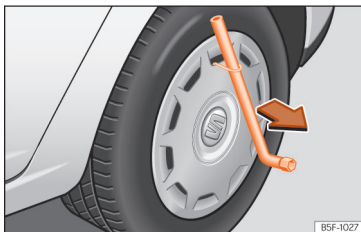

Fig. 243 Remove the wheel cover.
- Insert the box spanner through the hook, rest it on the tyre and remove the wheel trim >>> Fig. 243.